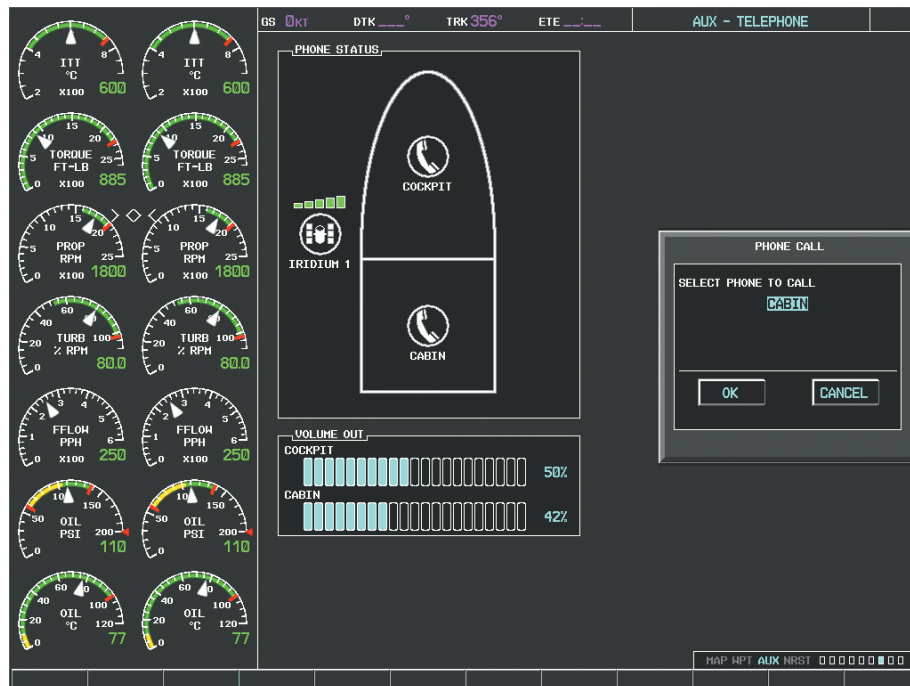

Figure 8-81 Initiating a Cabin Call
- 2) Select the **DIAL** Softkey on the MFD. A display similar to Figure 8-81 will be shown.